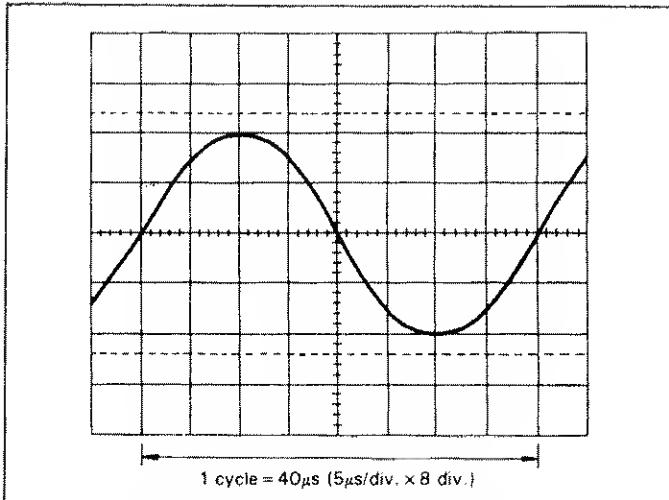

Fig. 9. Frequency Measurement.
(Refer to Fig. 9)
1. Set up the oscilloscope to display one cycle of waveform (see Fig. 9).
In the example shown in Fig. 9, a period of 40 μ s is observed. Substituting this value into the above equation, the frequency is calculated as follows: